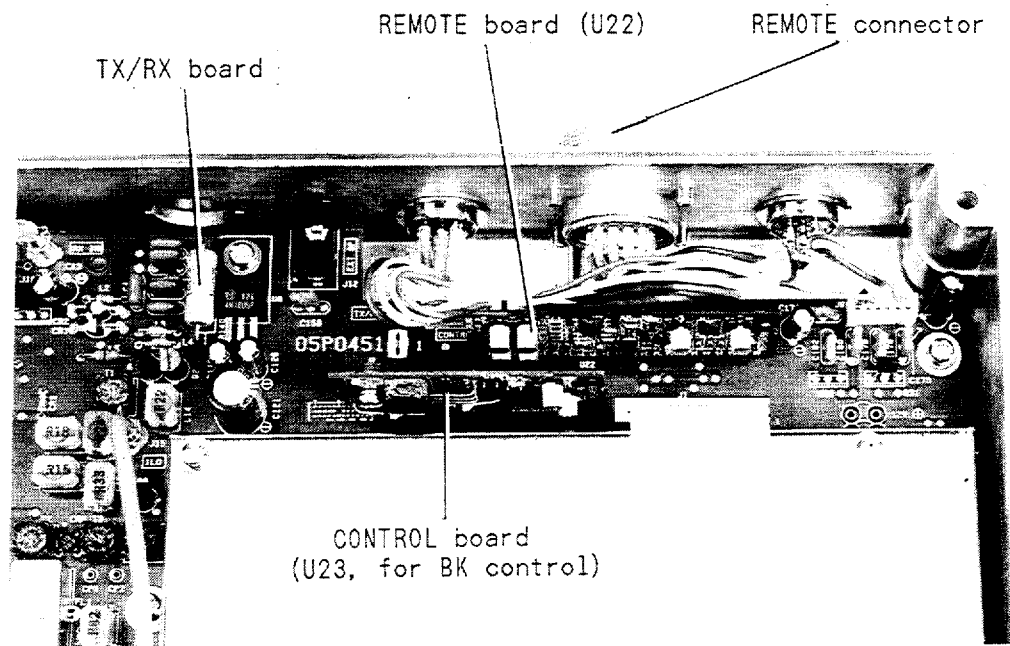

Figure 5-26 REMOTE board on TX/RX board
3. Solder the REMOTE-A Board to U22 on the TX/RX Board as shown in Figure 5-26.